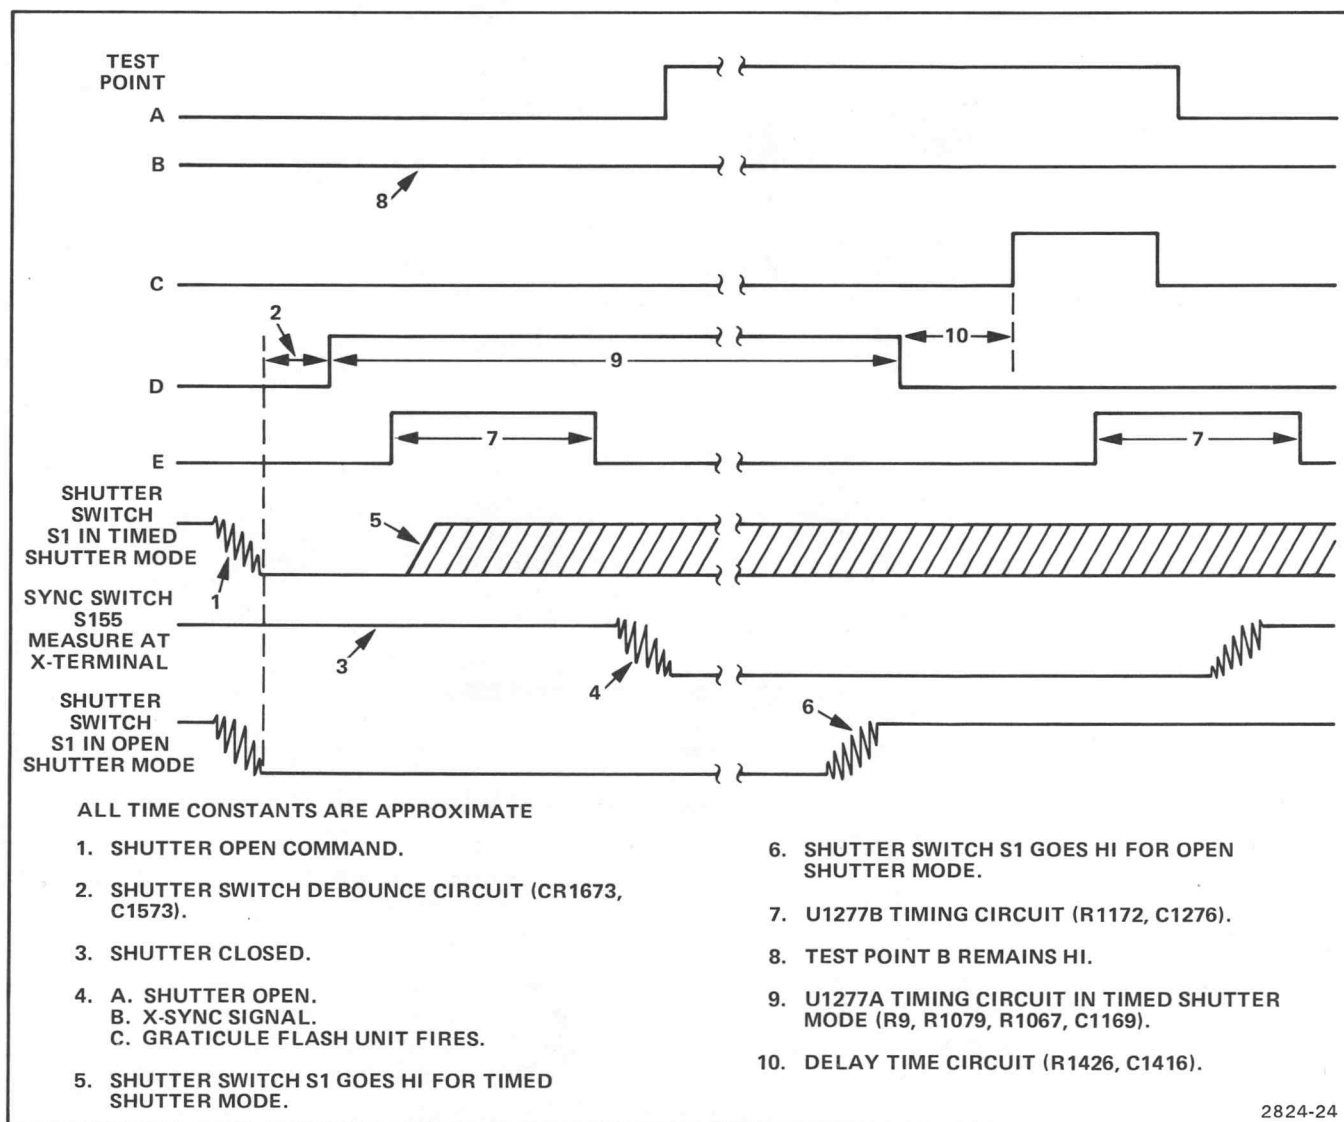

Figure 5-5. Timing diagram for timed shutter and open shutter modes.
6. Check the timing of the TIMED SHUTTER and OPEN SHUTTER modes. Figure 5-5 shows the timing diagram for these modes.